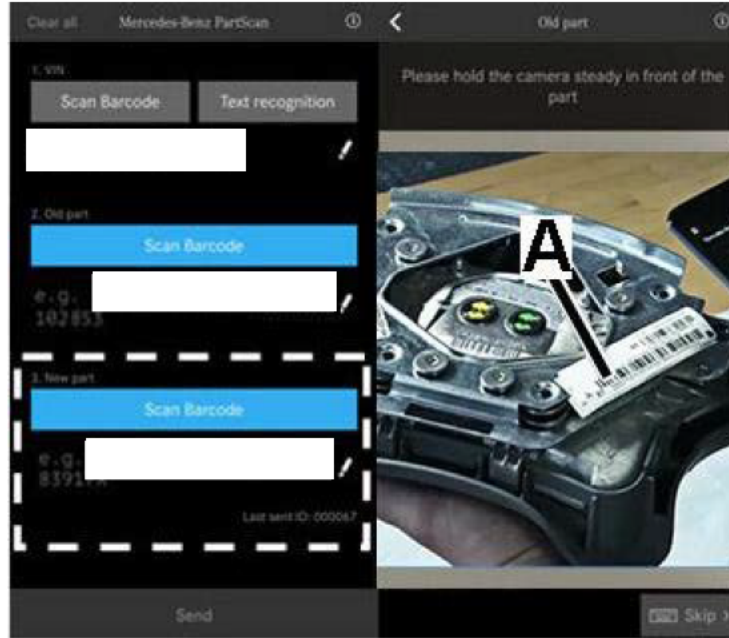

Figure 3
6. Scan the barcode of the removed driver airbag module using the "Scan old component" button (Figure 3).